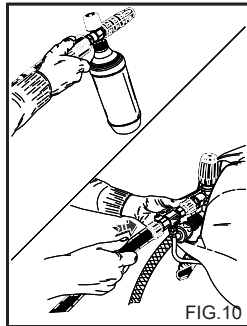

FIG.10
2) Detach the extension from the handgrip and fit the double lance, lance with adjustable head or detergent kit. Operate the high pressure washer, activate the detergent suction control on the lance (figs. 10, 12) and spray the surface to be washed, working from the bottom upwards. Leave to work for a few minutes...
ATTACHING THE DETERGENT INTAKE KIT (fig. 10) (optional accessory)